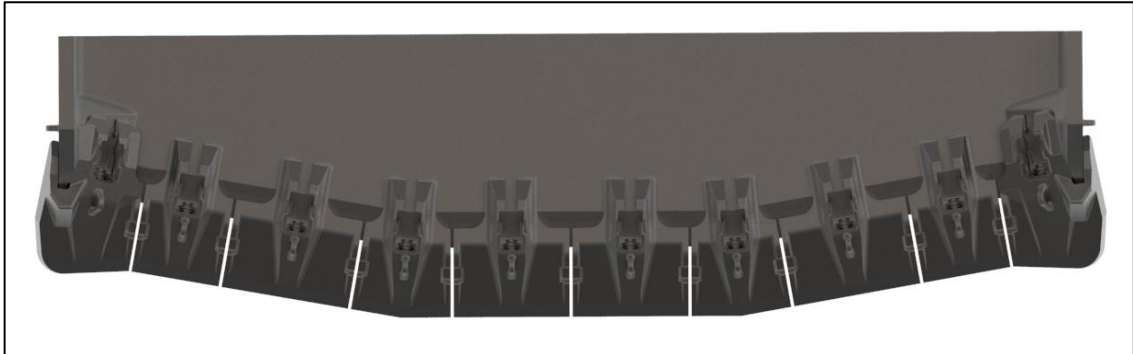

Figure 25 Temporary Shroud Positioning - Example
2.14.2. Using a mechanical lifting aid temporarily fit all Shrouds to the lip. Check the positioning and gaps between the shrouds to ensure they are laid out as per the lip layout drawing. Refer Figure 25.